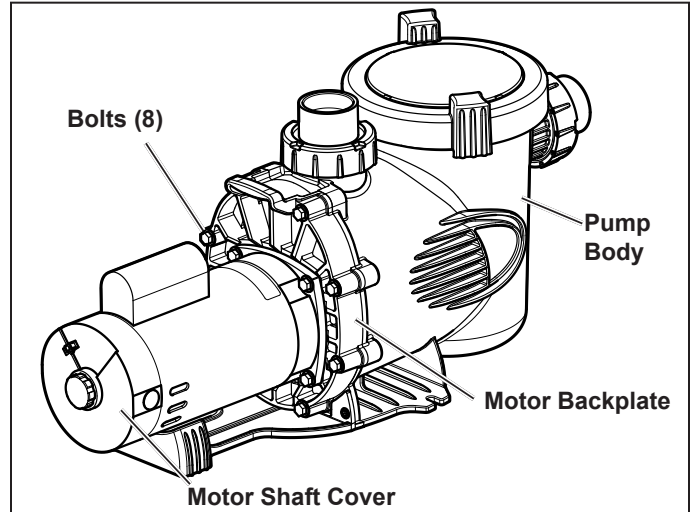

Figure 5. Remove the Pump Housing
3. Using a 9/16" wrench, loosen the bolts connecting the pump body to the motor backplate. See Figure 5.
6. Remove the motor shaft cover on the back of the motor by twisting the hex-head screw with a 90° crescent wrench, see Figure 5. The motor shaft will be exposed.